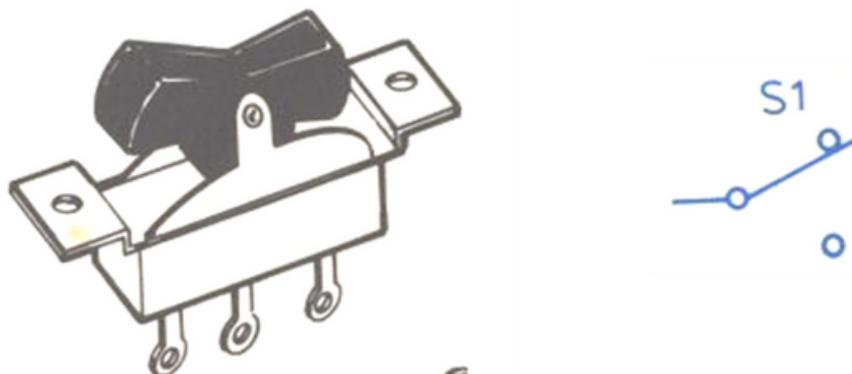

Figure 2.2.4
- Figure 2.2.4 show that the mechanical-interlocked pushbutton with NO (normally open) and NC (Normally close) contacts through 2 circuit involved.